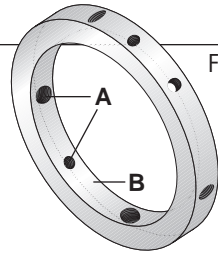

Figure 6
3.6 Sleeve Collar ⑨ (Figure 6)